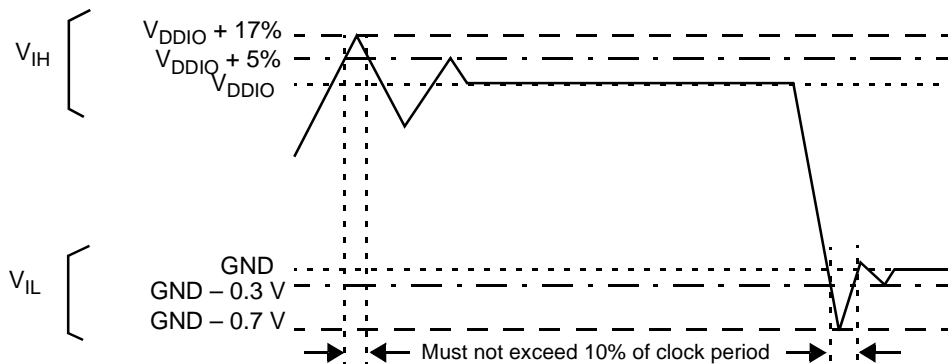

Figure 6. Overshoot/Undershoot Voltage for V_{IH} and V_{IL}
Notes: 1. See Figure 6 for undershoot and overshoot voltages. 2. Not tested. Guaranteed by design.
- See Figure 6 for undershoot and overshoot voltages.